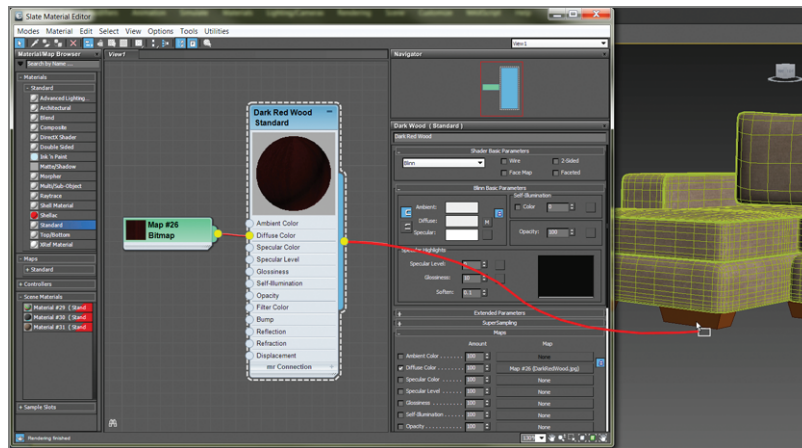

FIGURE 10.11 Apply the Dark Red Wood material by clicking and dragging from the node's output socket to the couch foot.
7. Apply the material by clicking and dragging from the node's output socket to the couch foot, as shown in Figure 10.11.